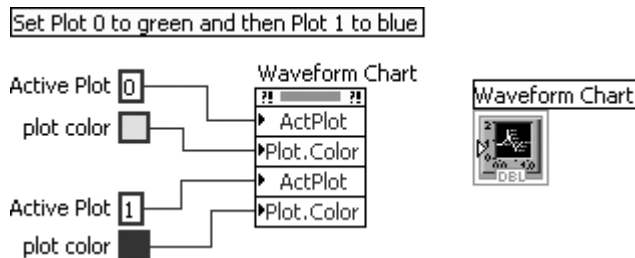

Figure 13.59
*If the chart had multiple traces (plots), we would have had to set the **Active Plot** property before the `Plot.Color` by adding that property above `Plot.Color` in the property node, as shown in Figure 13.59. Note that a property node executes from top to bottom, setting each property in sequence. Keep this trick in your toolbox—you will definitely need it!*